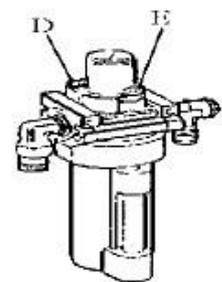

Fig16
**Caution: The roller support can't be used for all tires, some tires need following operation: Move the mounting head above the rim; Insert the lifting lever in the clearance between the bottom tire bead and the rim, have the tire hung on the mounting head(Fig 16); Tread the power supply pedal to rotate the turntable. With the help of the mounting head, the tire is detached completely.**
Unscrew with hex wrench (E). Based on connection of compressed air, first to depress Jaws open and close Pedal or Turntable Rotation Pedal 5-6 times, and then check whether oil in Oil Fog Maker drops down a drip of oil. For continuous operation, depress twice every time, drop down a drip of oil, otherwise adjust the screw (D) that controlled oil enter with minus screwdriver. (Fig 16)